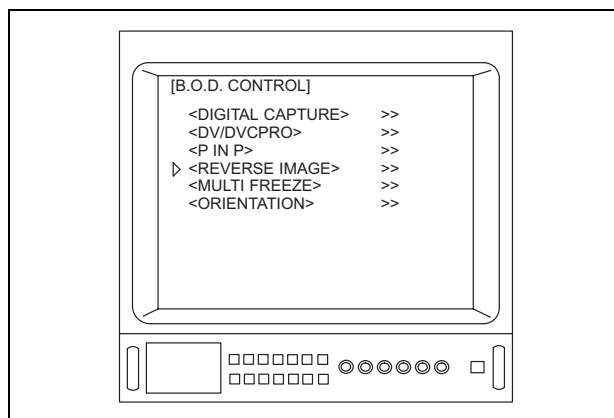

Figure 5.111
4. Depress the menu switches " or ", or the "" key on the keyboard to move the arrow " to "REVERSE IMAGE" (see Figure 5.111).
Depending upon which B.O.D.s are installed in the OTV-S7V, the menu shown in Figure 5.111 may appear different from that displayed on the video monitor.